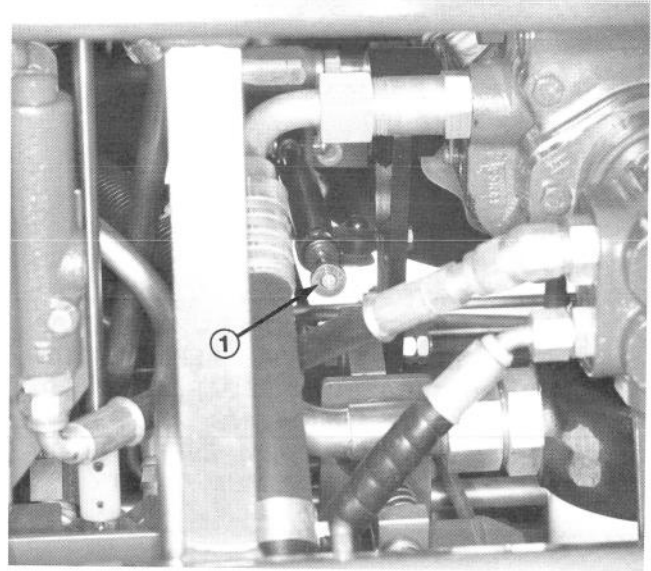

Figure 19
Normally, traction pedal adjusting knob (Fig. 19) should be screwed in fully. For trimming or quicker pedal response, unscrew the adjusting knob 1 to 2 clicks.
4. Rotate traction pedal adjusting knob clockwise to increase pressure (slower response) and counter-clockwise to decrease pressure (quicker response) (Fig. 19).